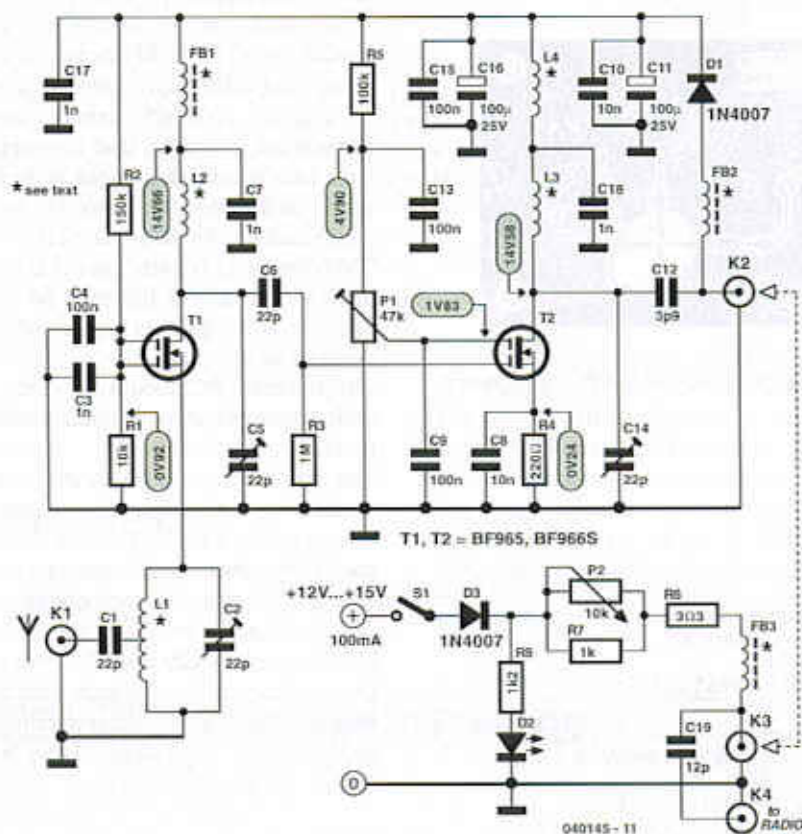

Figure 1. Circuit diagram of the two-stage preamplifier for VHF FM receivers.
The circuit diagram in **Figure 1** reveals the secret: dual-gate MOSFETs in positions T1 and T2. The first of these, T1, is configured mainly for low noise and antenna matching and the second, T2, for high gain. Unusually, the antenna signal is applied to T1 via its source (S) terminal, which is convenient because unlike one of the gates (G1 and G2) it